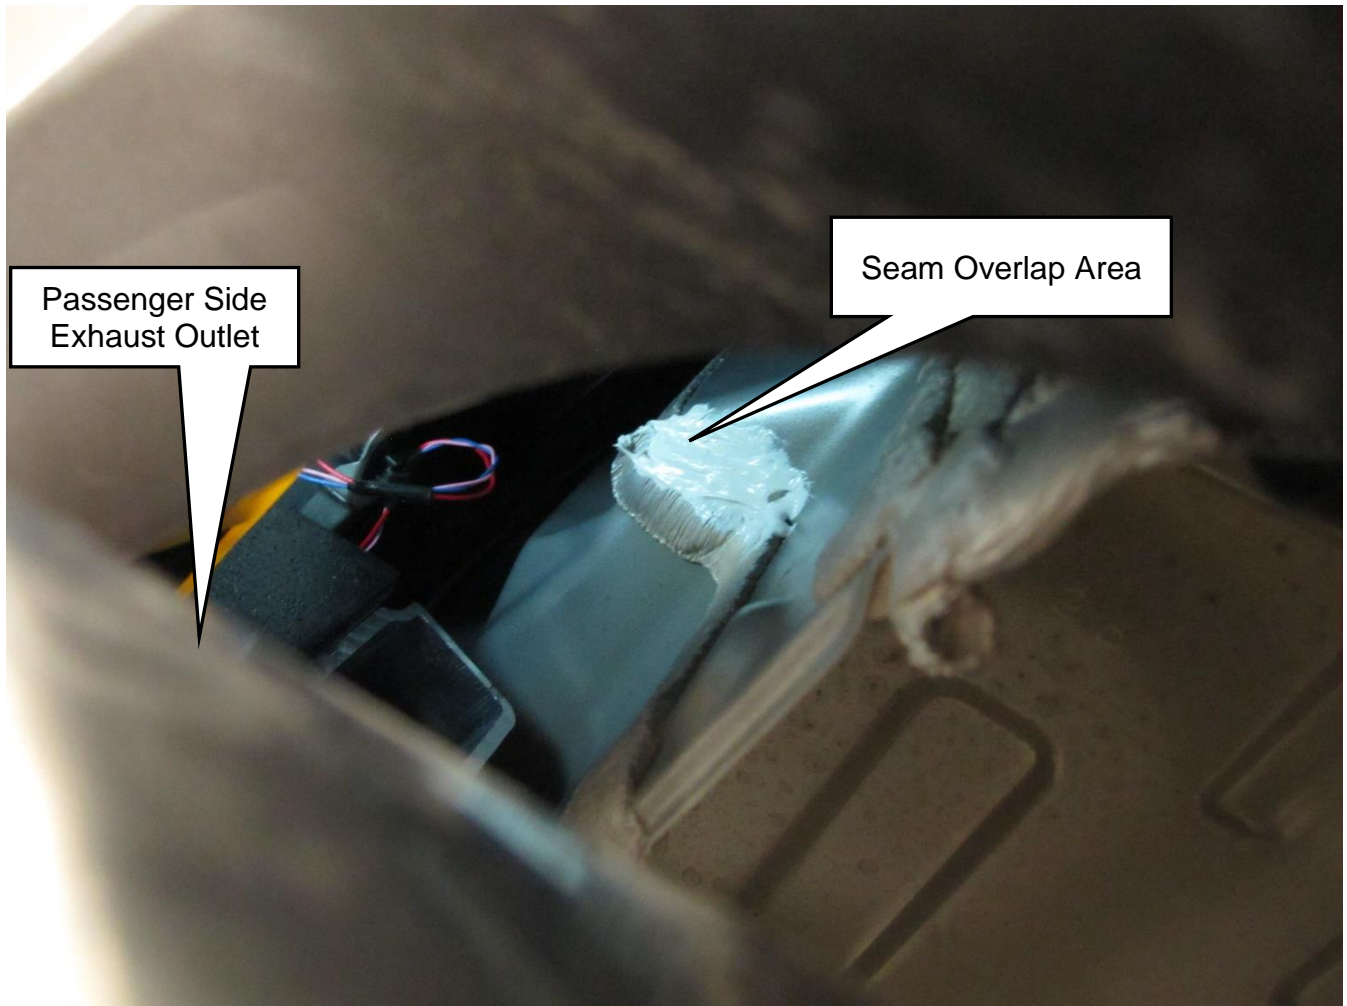

Figure 13
10. Figure 13 shows the right rear panel after the seam gap has been resealed with the brushed on seam sealer.